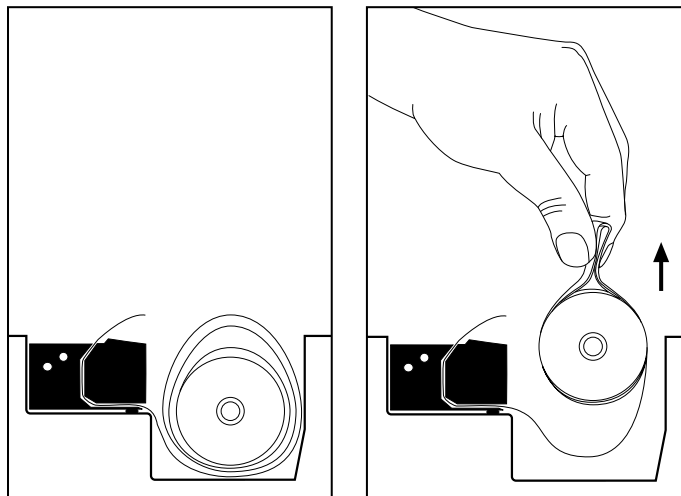

Figure 2.6.3B—Removing a full roll of paper
2. Remove the empty spool or the roll of paper. You are likely to feel some resistance as you pull it upward. If you are removing a full roll of paper, see Figure 2.6.3B.
Note: If the roll of paper is full, it can be difficult to grip. Loosen some of the paper, pinch it into a fold, and use the fold to pull the paper and spool out of the cavity, as in Figure 2.6.3B